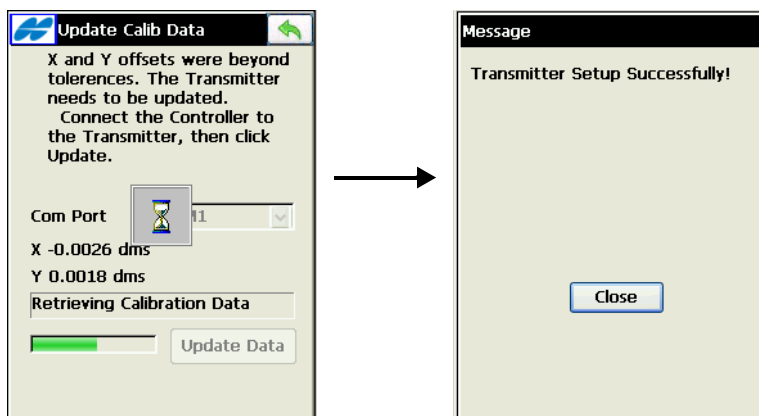

Figure A-20. Uploading Calibration Data
13. When finished, tap **Close** on the *Message* screen (Figure A-20).